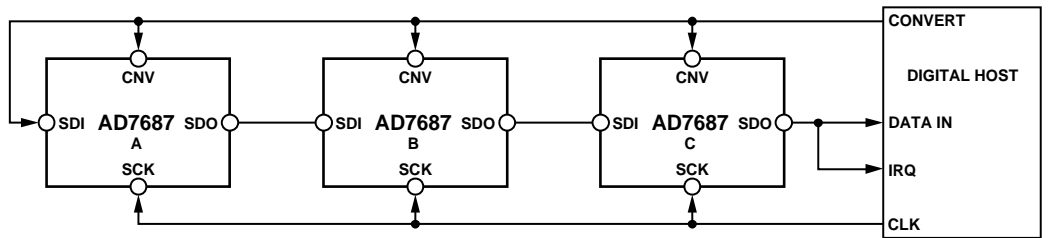
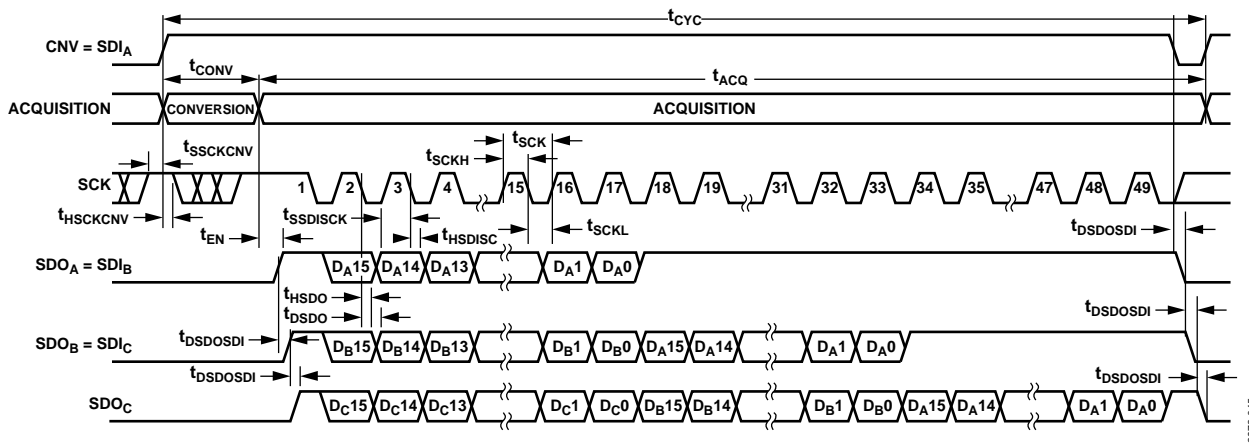

Figure 44. Chain Mode with BUSY Indicator Connection Diagram
Figure 45. Chain Mode with BUSY Indicator Serial Interface Timing
- In the chain mode if SCK is high during the \overline{CNV} rising edge (see Figure 45).
Figure 44 shows a connection diagram example using three AD7687 devices, and Figure 45 gives the corresponding timing.
When SDI and CNV are low, SDO is driven low. With SDI low and SCK high, a rising edge on CNV initiates a conversion, selects the chain mode, and enables the BUSY indicator feature. In this mode, CNV is held high during the conversion phase and the subsequent data readback. When all ADCs in the chain have completed their conversions, the SDO pin of the ADC closest to the digital host (see the AD7687 C in Figure 44) is driven high. This transition on SDO can act as a BUSY indicator to